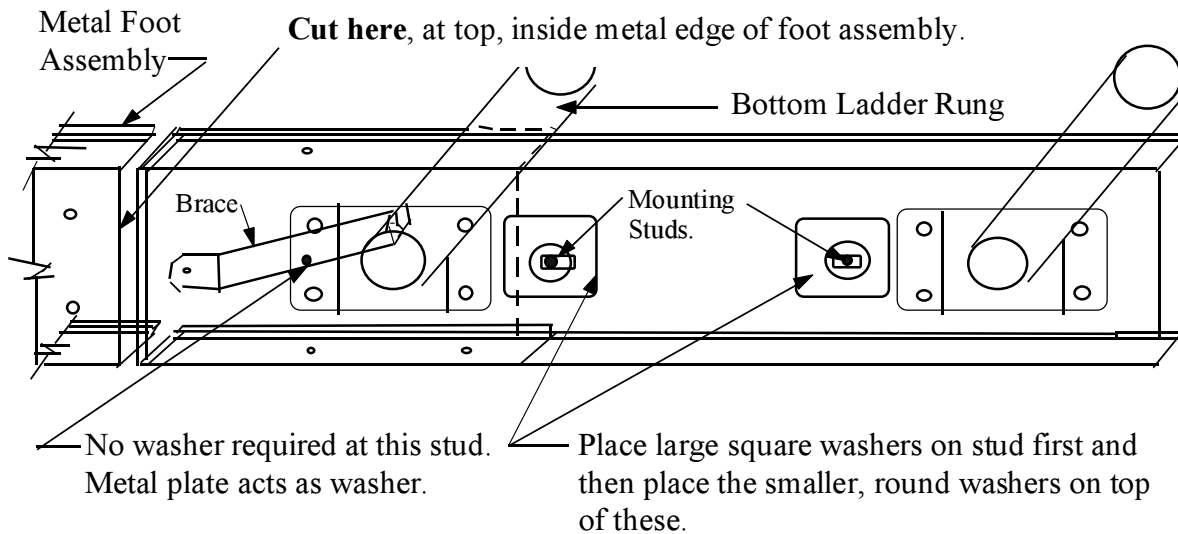
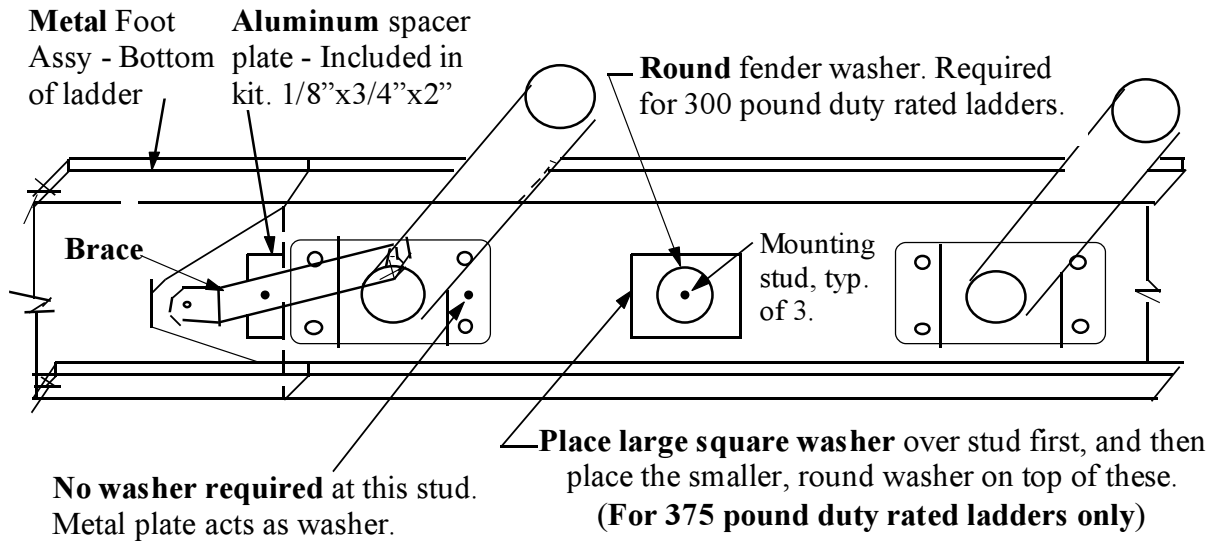

Figure 3-2A
Figure 3-4A
1. Remove existing stock extension ladder foot. Removal of the metal foot assembly is completely optional, but the small angle brace under first rung should remain on ladder. See **Fig 3-2A** for cut line on Werner 7100 series and similar ladders if removal is preferred. Removal of the metal foot assembly on Werner ladders and similar will reduce the overall weight of the ladder and help utilize the full 10" stroke of the Levelok Levelers.
over the 2" square washer (see **Figure 3-2A** and **3-4A**). The mounting stud penetrating the rung plate does not require a washer. The bottom mounting stud on the Louisville ladder requires a thin aluminum spacer plate as a washer (see **Figure 3-4A**). Tighten all 3 nylon insert nuts with a 1/2" wrench or socket, to the recommended torque of 9 foot-pounds. **YOUR FIBERGLASS EXTENSION LADDER / LEVELOK LEVELING SYSTEM IS NOW READY FOR USE.**